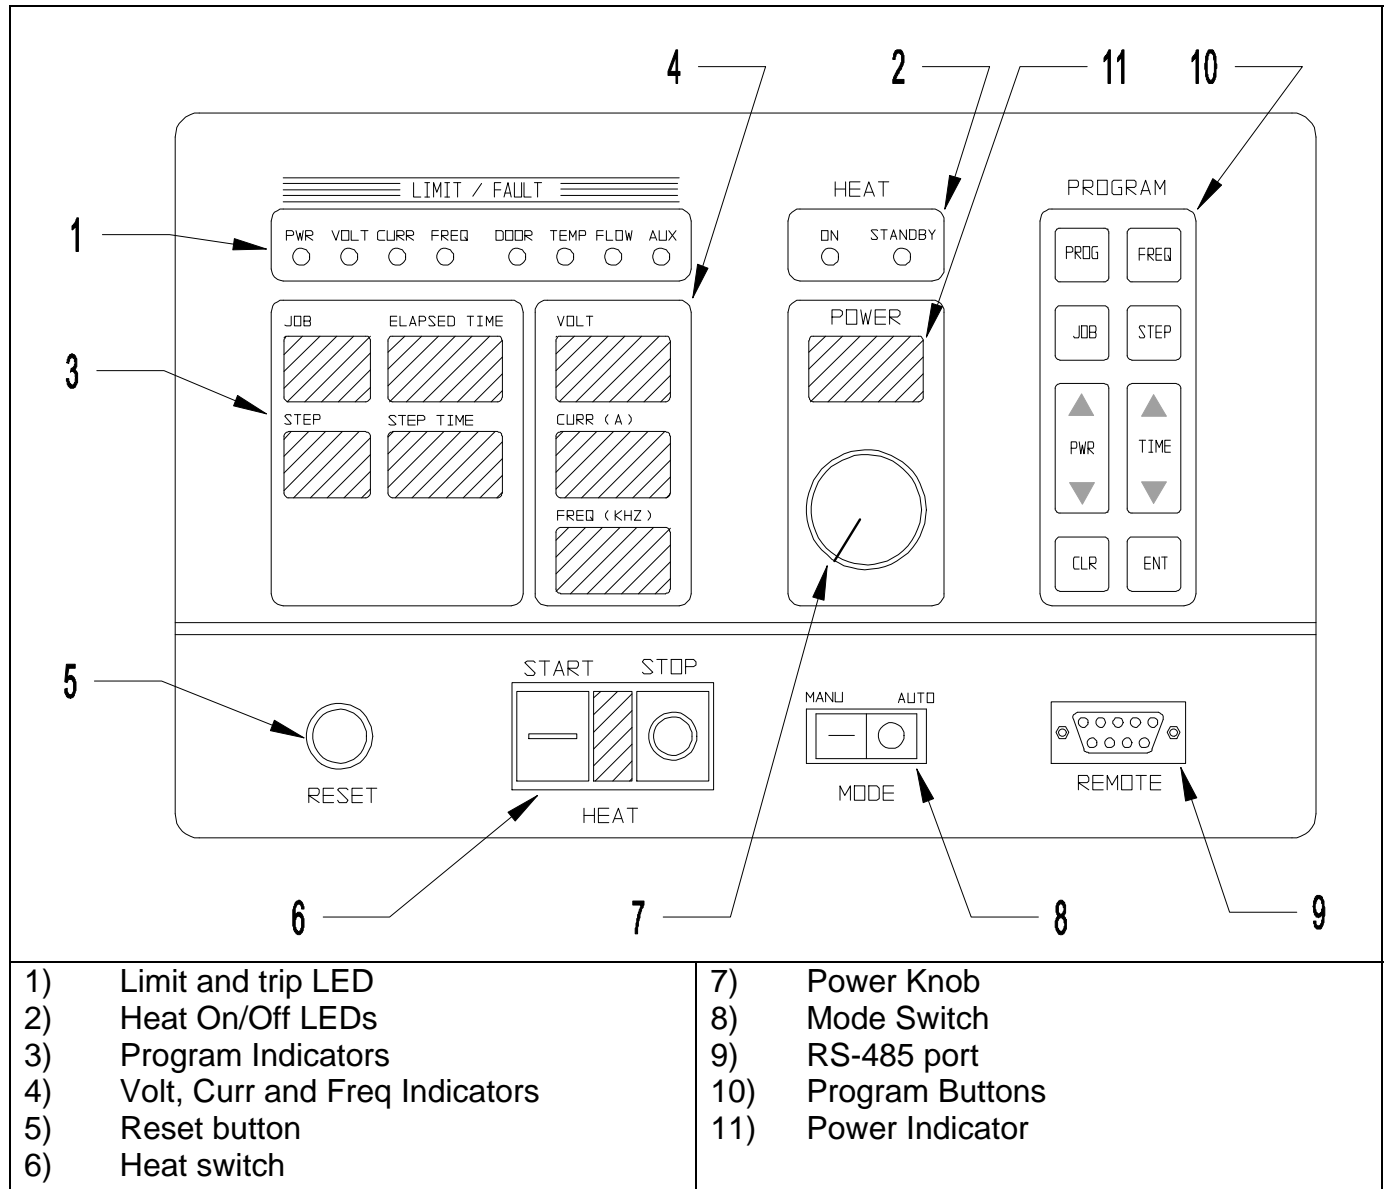

Figure 2: Front panel layout.
Identified by ① in Figure 2 on page 9.
These LEDs show whether the power supply is generating output or is off. (identified by ② in Figure 2 on page 9).
Identified by ③ in Figure 2 on page 9. These read-outs display the programs status when using the AUTO mode. The STEP TIME indicator display minutes and the TOTAL TIME indicator displays seconds during manual mode operation.
Identified by ④ in Figure 2 on page 9. These read-outs display the output voltage, the inverter current and the operating frequency when the power supply is operating.
Identified by ⑤ in Figure 2 on page 9. This button is used to clear the fault indicators if a run-time or interlock trip has occurred. Depressing the button will light the limit and trip indicators and clear the latch for the fault indicator. If the LED does not go out, then the reason for the fault is still present.
Identified by ⑥ Figure 2 on page 9. When the power supply is energized, and no fault indicators are lit, pressing the ON (-) button will start the power supply delivering heat. When moved back to the STOP (O) position, the heating will be terminated. While in AUTO mode, the ON position initiates the heat cycle. Pressing the STOP button will terminate the heat cycle.
Identified by ⑦ in Figure 2 on page 9. The power pot sets the requested power level as indicated by the POWER read-out. The level of power output is indicated by the percentage on the LED display above the POWER POT. This pot is disabled during AUTO mode operation.
Identified by ⑧ in Figure 2 on page 9. In the manual position, MAN, the power supply turns on with the HEAT switch and power level is controlled by the POWER POT. The programming in AUTO mode is done with the MODE switch in the MAN position. In the automatic position, AUTO, the power supply runs programmed jobs. The heat cycle is initiated with the HEAT switch and the power levels and duration of the cycle are controlled automatically, as programmed.
Identified by ⑩ in Figure 2 on page 9. The program buttons are used to program and display jobs for the power supply to run automatically. See section 5 on page 13 for a description of how to program the power supply.
Identified by (11) in Figure 2 on page 9. This read-out displays the demand power when the unit is in standby or program mode, and displays the power output when the heat cycle is in progress.